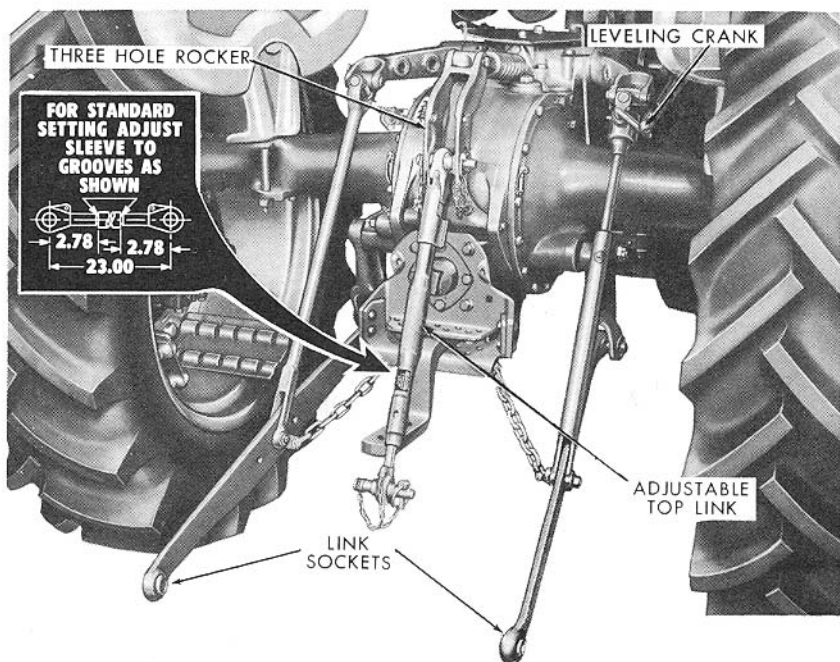

Figure 14
Control, back the tractor so that the lift links are directly above the cross shaft of the implement. Lower the links with the lift control lever, until the sockets are aligned with the ends of the shaft. Attach the left link to the shaft and secure with the linch pin provided, then adjust the right link with the leveling crank (see Figure 14) and attach it in the same manner. Attach the adjustable top link to the implement and secure it with the linch pin.
**Adjustable Top Link:** The fully adjustable top link provides improved implement performance and operation. The link may be adjusted to suit implement operation requirements by releasing the lock and rotating the sleeve until the desired length is obtained. The standard length of 23 inches is obtained by adjusting the link as shown on a decal located on the sleeve. (See insert, Figure 14.)